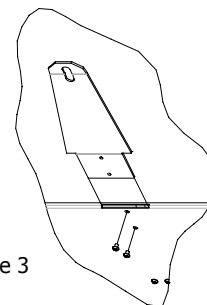

Figure 3
1. Attach fire lid bracket to unit as shown in Figure 3.